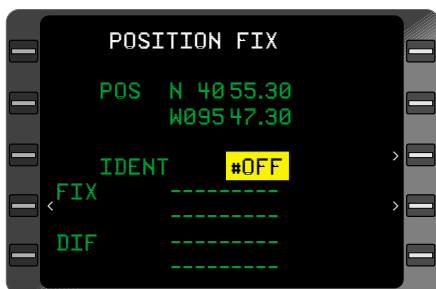

Figure 3-200
5. Power Off Waypoint IDENT - INSERT “#OFF”. (Figure 3-200).